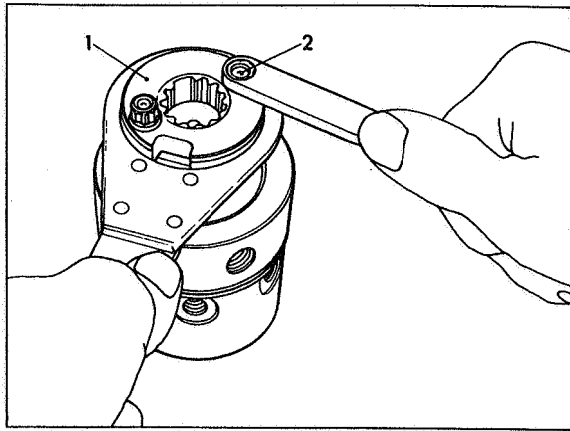

Fig 41 Loosening drive plate screws
Place the head and rotor assembly on the bench. As illustrated in Fig 41, hold drive plate (1) with Tool Part No 7144-744 and loosen drive plate screws (2) with Tool Part No 7144-511A.